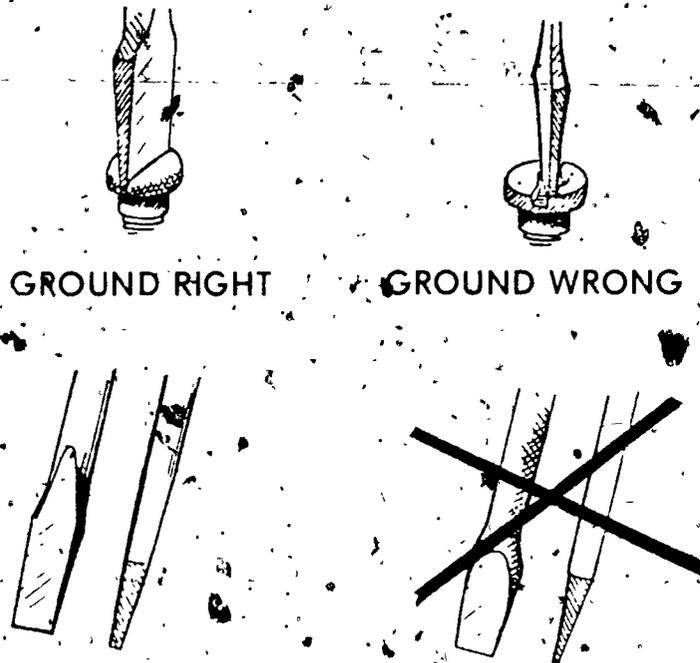

FIGURE 2
E. Grind sides of blade to manufacturer's original specifications (Figure 2)